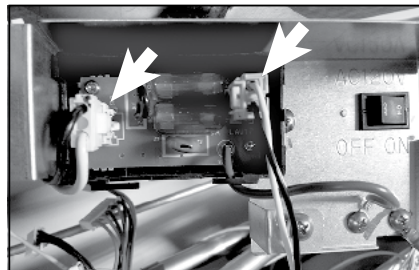

Figure 51.
- 4.1 Disconnect both wire connectors from the fuse box ports (Figure 51).